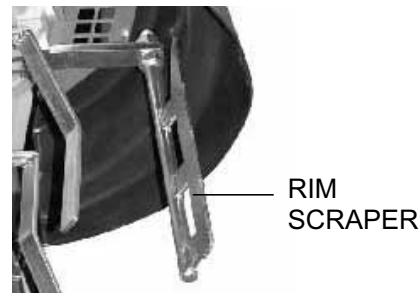

Figure 8. Rim Scraper
1. The rim scraper is adjusted at the factory. If it necessary to readjust it, make sure that the arm of the rim scraper does not scrape against the edge of the tub. See Figure 8.